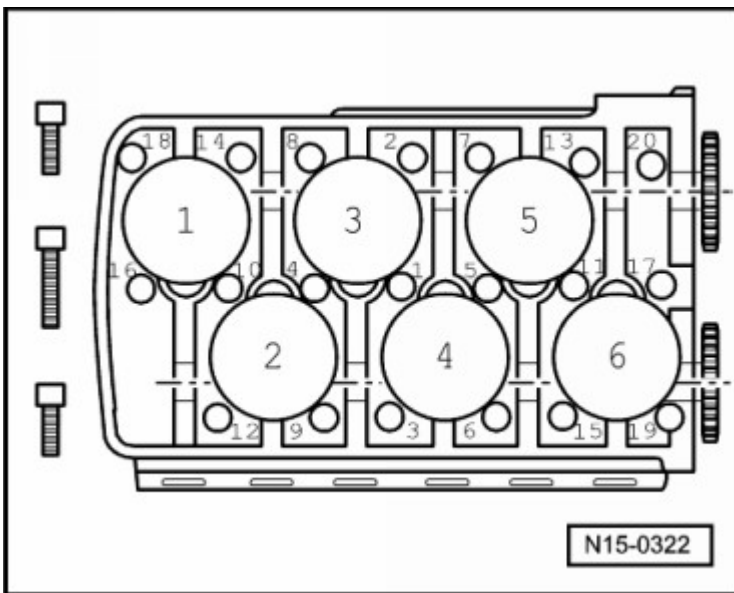

Fig. 8: Identifying Cylinder Head Tightening Sequence
- Tightening sequence **Fig. 8**